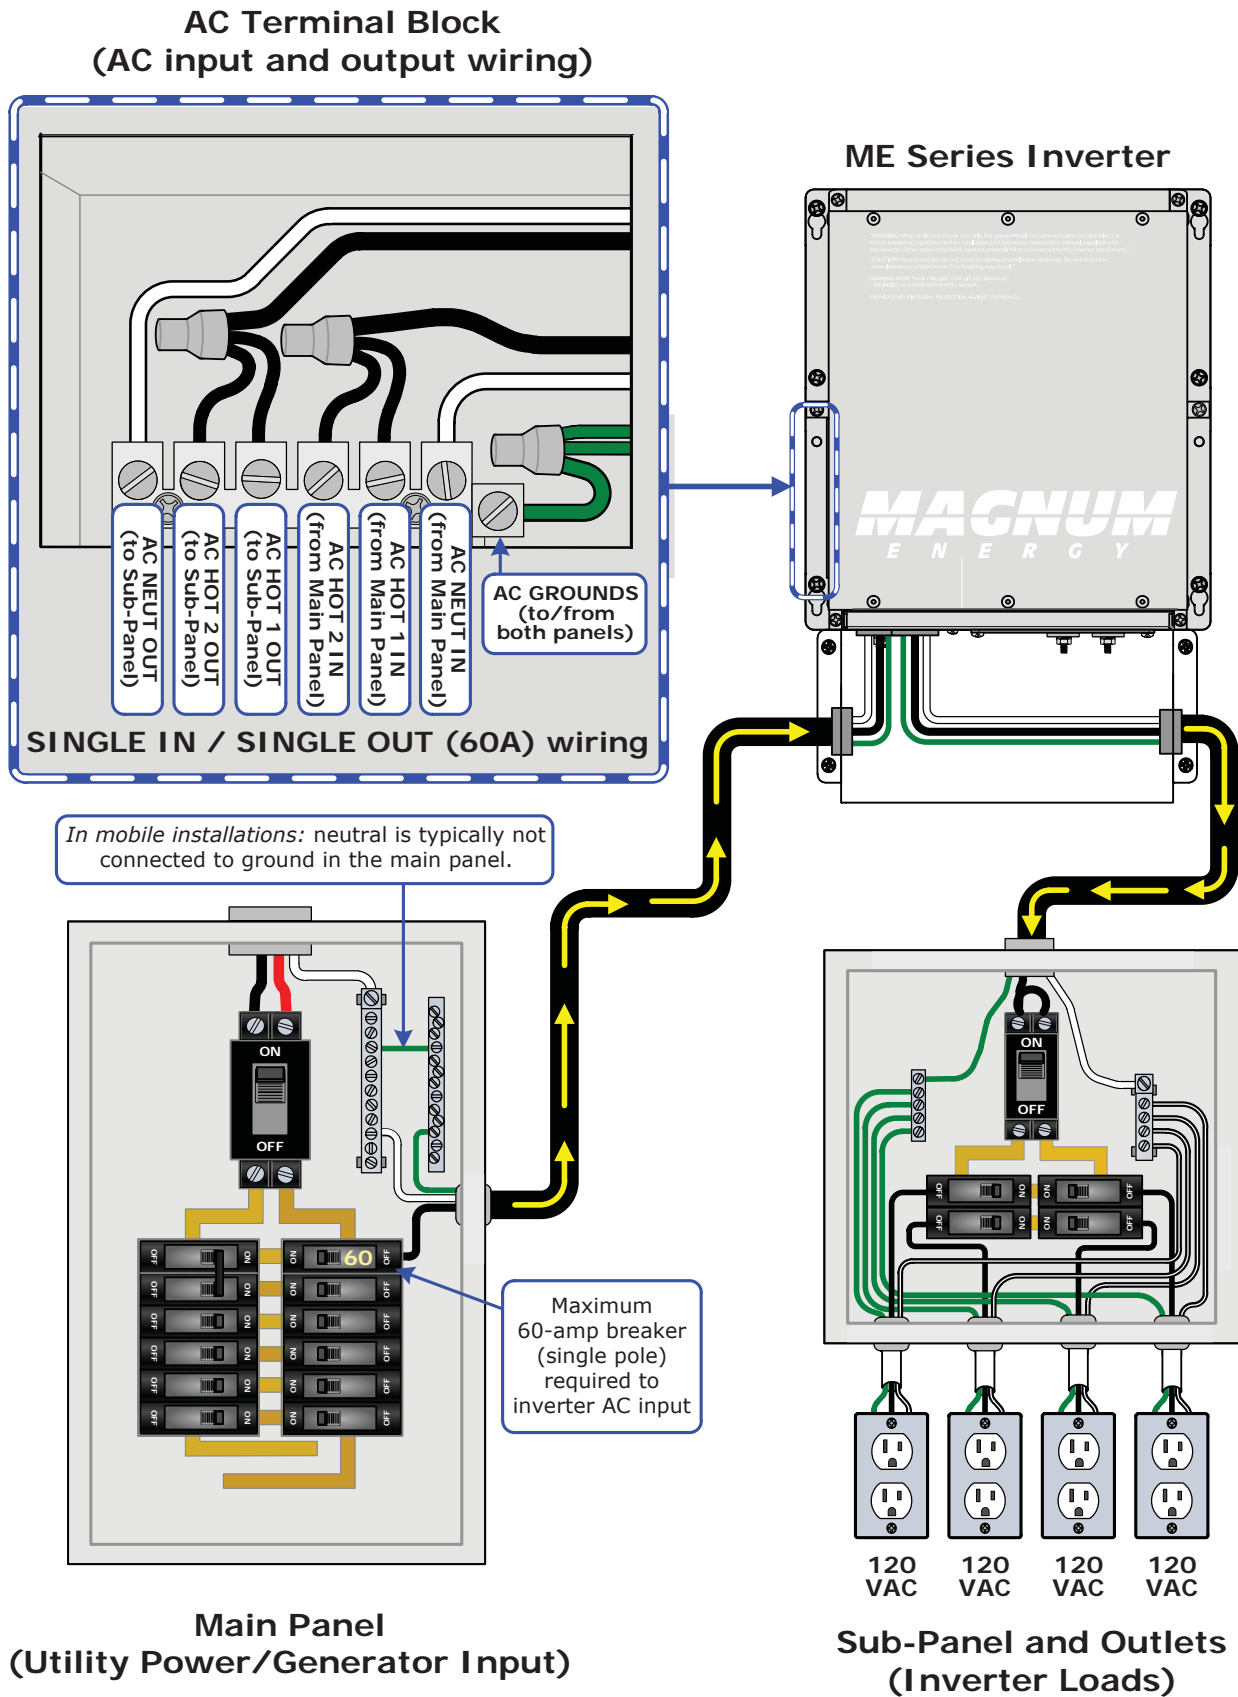

Figure 2-10, AC Wiring for Single In - Single Out (60A) Configurations
When the inverter is in Standby mode, the full AC continuous pass-thru capacity of the ME Series inverter/charger is 30 amps for each AC leg1 (AC HOT 1 and AC HOT 2). For a 30-amp continuous pass-thru capability, each AC HOT input to the inverter requires a 30-amp continuous duty rated breaker2, which corresponds to a minimum cable size of #12 AWG (in free air). However, the AC HOT 1 and AC HOT 2 may be combined to obtain a 60-amp pass-thru capability2 (see Figure 2-10). When tying the AC HOT 1 and HOT 2 together for a 60-amp continuous pass-thru capability, the AC input to the inverter requires a 60-amp continuous duty rated breaker, which corresponds to a minimum cable size of #8 AWG in conduit. If you are using other circuit breakers/wire sizes, refer to the appropriate electrical codes for sizing requirements.
**Info:** One of the AC wiring configurations [SI/SO (60A), Figure 2-10] uses a #6 AWG (13.3 mm2) CU wire to carry 60 amps, and splits to two wires to allow 30 amps for each leg (i.e., AC HOT1 and AC HOT2). IDEAL Industries Inc. ([www.idealindustries.com](http://www.idealindustries.com)) manufactures a crimp connector (PN: 412) and a separate insulator (PN: 417) that allow up to two #8 AWG (8.4 mm2) wires, with one #6 AWG (13 mm2) wire to be connected together.